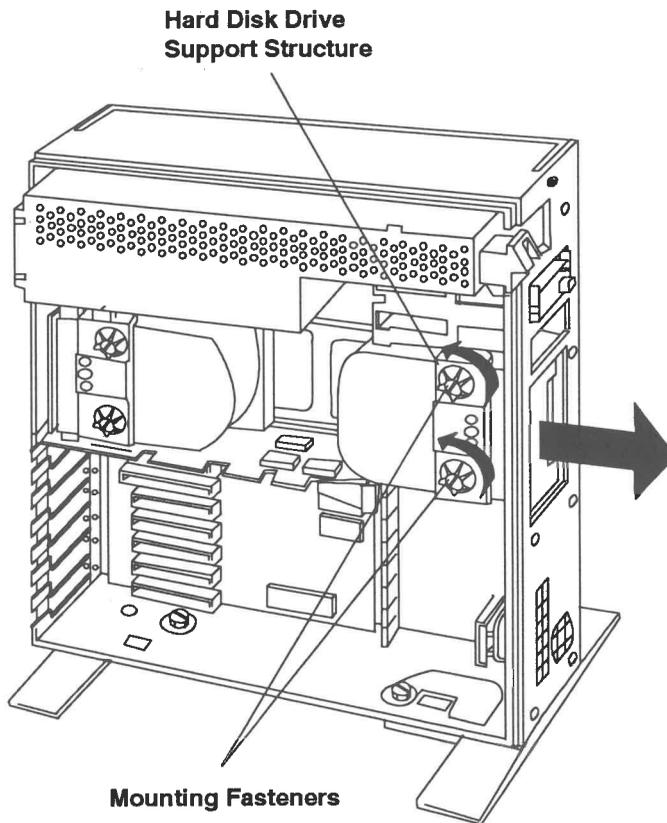

Figure 2-5 Hard Disk Drive Removal/Installation, Front Bay
3. Loosen the two mounting fasteners that secure the hard disk drive to the hard disk drive support structure (see Figure 2-5).
14. Secure the front bay hard disk drive into place by tightening the two mounting fasteners on the support structure (see Figure 2-5).